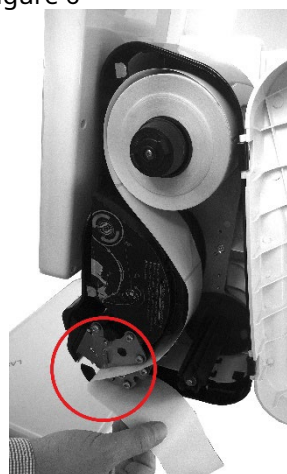
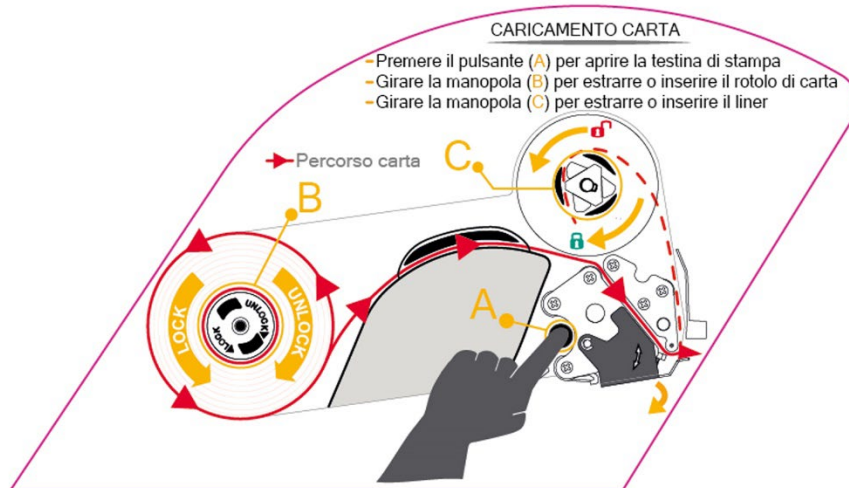

fig. 6
fig. 7
- Insert the roll, making sure that the siliconized support follows the path indicated in red in the figure 7. The passage of the paper in the head is shown in figure 6